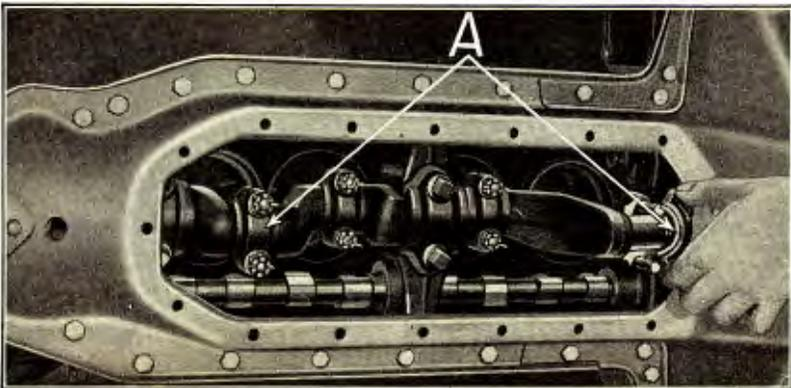

Fig. 229
- 383** Remove connecting rod bearing caps (See "A" Fig. 229) from No. 1 and No. 4 rods by running off the two nuts which hold each cap to rod. Before removing the caps examine both rods and caps to make sure they are plainly marked. When connecting rods and caps are assembled in new engines, they are marked with a file mark which corresponds to the number of the cylinder into which they are fitted. For instance No. 1 rod and cap which are fitted into No. 1